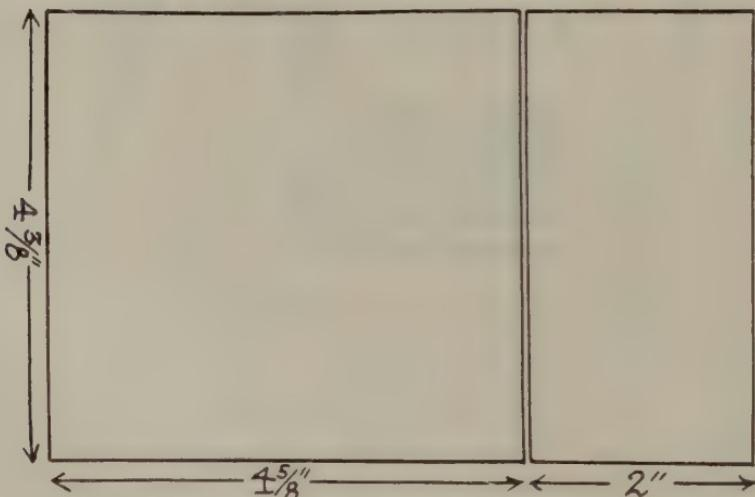
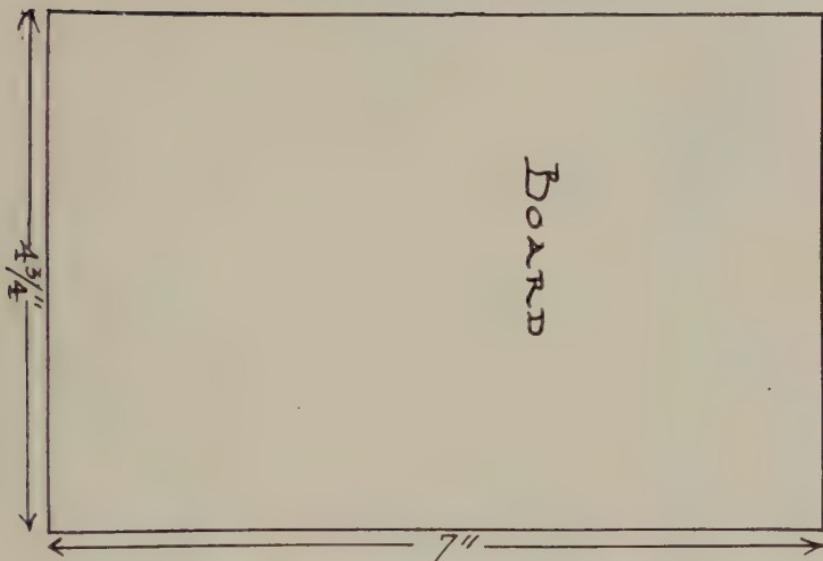

FIG. 65—EASEL BOARDS FOR CALENDAR
FIG. 66—FACE BOARD FOR CALENDAR
1. Take the sheet of stiff binders board provided, test it for the grain and on the board shears cut a piece $4\frac{3}{4}'' \times 7''$ with the grain the 7" way (Fig. 66), another piece $4\frac{3}{8}'' \times 2''$, grain $4\frac{3}{8}''$ way and a third $4\frac{3}{8}'' \times 4\frac{5}{8}''$, grain the $4\frac{5}{8}''$ way. (Fig. 65.)